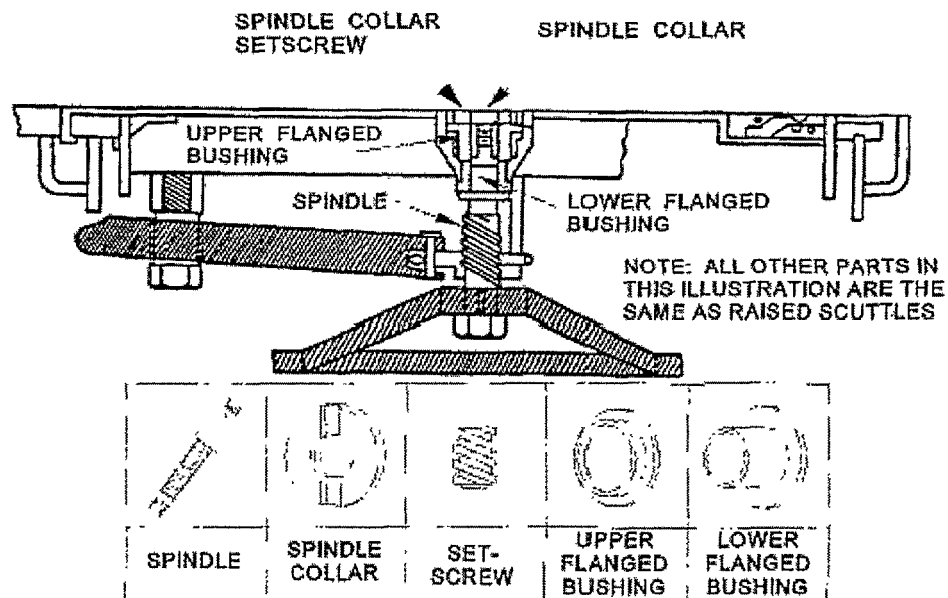

Figure 600-7.7. Flush Scuttle Components
- d) For flush scuttles, remove the spindle collar setscrew and unscrew the collar. See figure 600-7.7.
For flush scuttles, the lower flanged bushing is shaped differently than the upper bushing. See figure 600-7.7